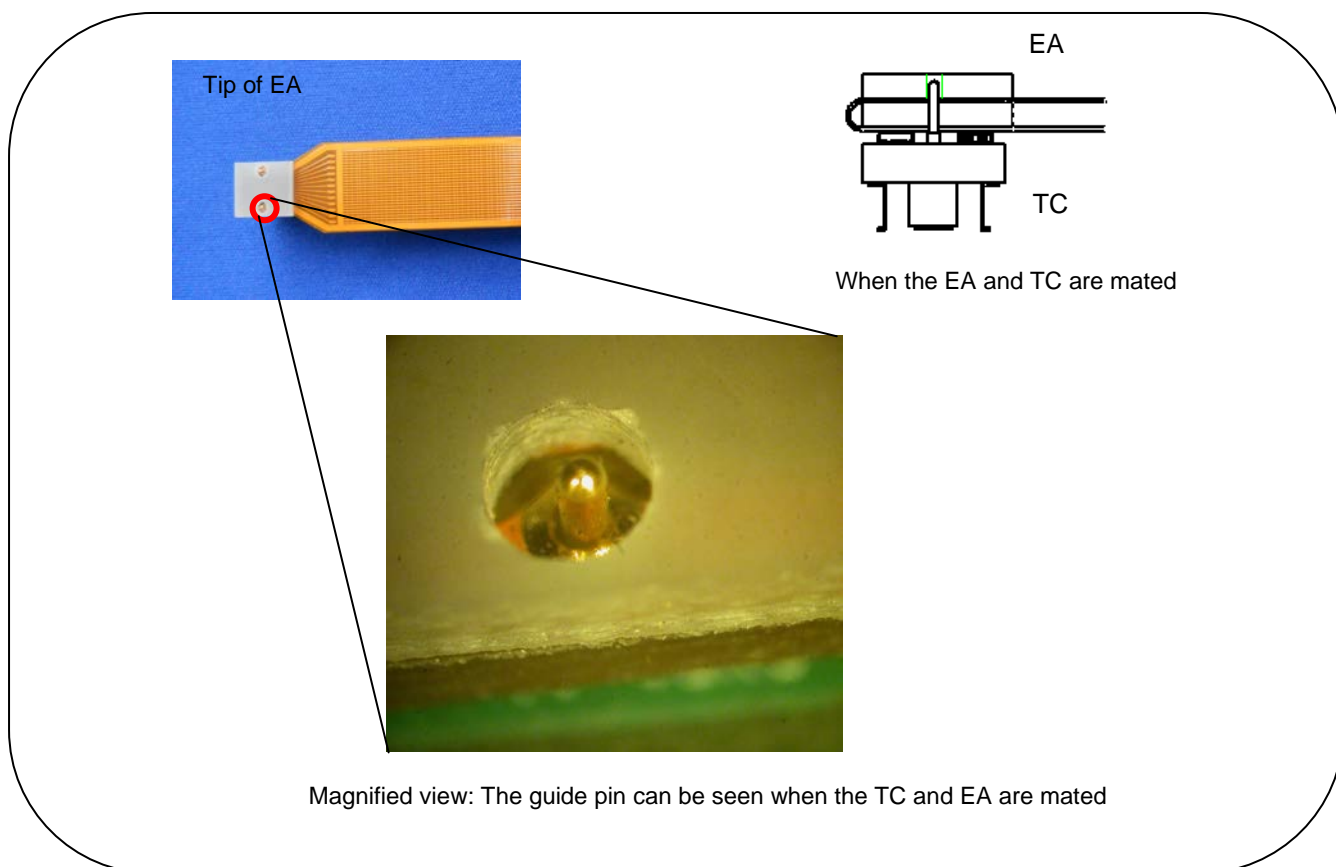

Figure 2-5 Magnified guide hole view when TC and EA are mated & mating diagram.
- (1) Check the orientation of pin 1, align the TC guide pin to the guide hole at the tip of the EA flexible printed circuit (FPC), and then insert it. (See Figure 2-5)
- (2) Check conductivity between the TC and EA at this time.
- (3) Solder the TC to the guide locking pad that can be seen from the FPC tip flexible guide hole using a soldering iron with a tip radius of $\phi 1.0$ mm or smaller. (Once soldered, the TC and EA cannot be removed from each other.)
- (4) Use extreme care so that the EA (FPC cable) does not apply stress to the TC. If the EA applies even a small amount of stress to the TC, we recommend securing the section soldered to the TC board with adhesive.